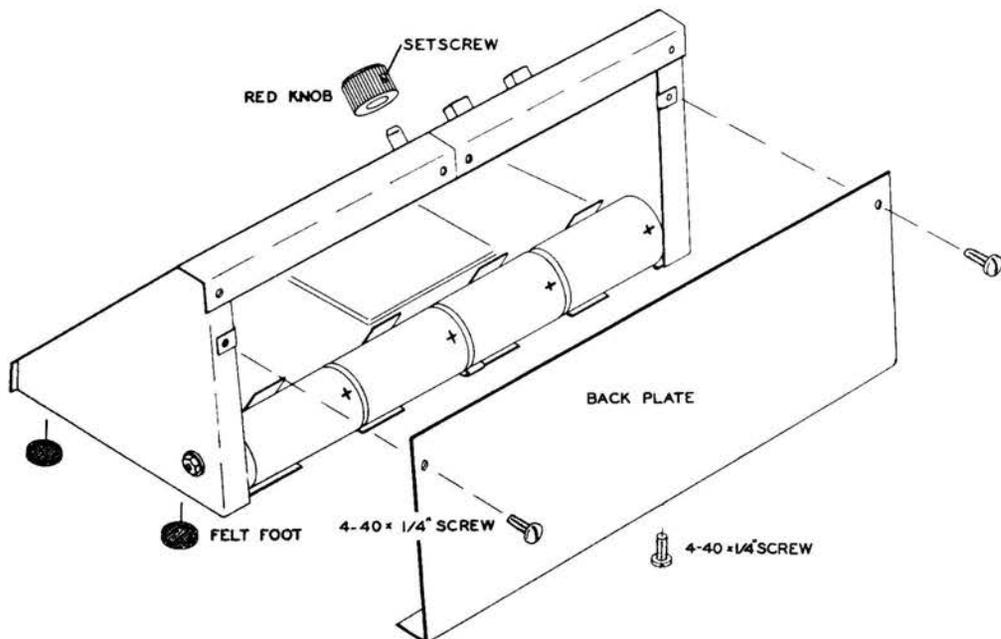

Figure 10N
- () Install the four batteries as shown in Figure 10N. Now install the back plate to the two end panels and master bottom plate as shown, using three 4-40 x 1/4" screws.